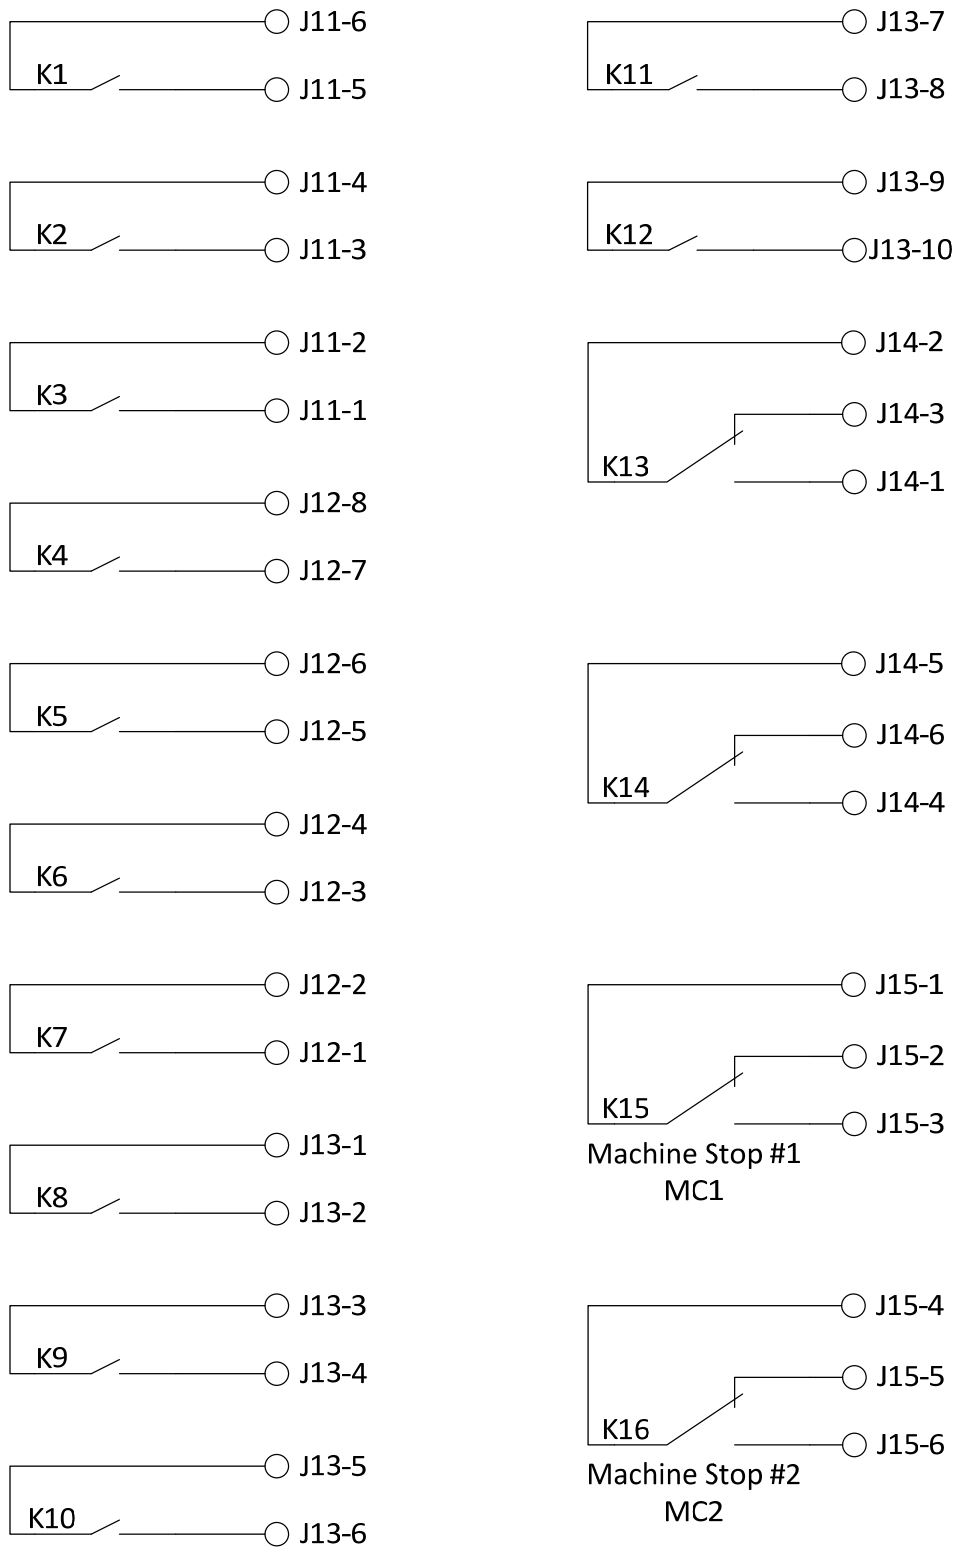

Figure 3: CPU Board Relay Wiring Diagram
The CPU board of the *inte/eSmart2* contains sixteen relays. Two of these relays (K15 and K16) are used for machine stop (MC) as described in Section 4.5, and two other relays (K13 and K14) are flip-flop relays. All of the other relays (K1-K12) are normally open relays. Figure 3 shows the relay wiring for all of the relays on the CPU board.